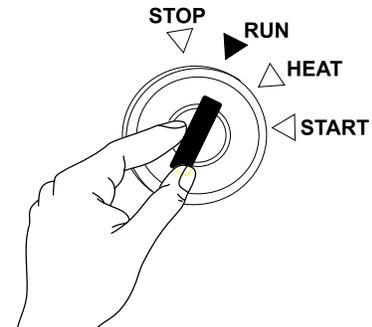

Figure 16. Starter Switch (RUN)
1. Insert the key into the starter switch (Figure 16) and turn it to the **RUN** position.